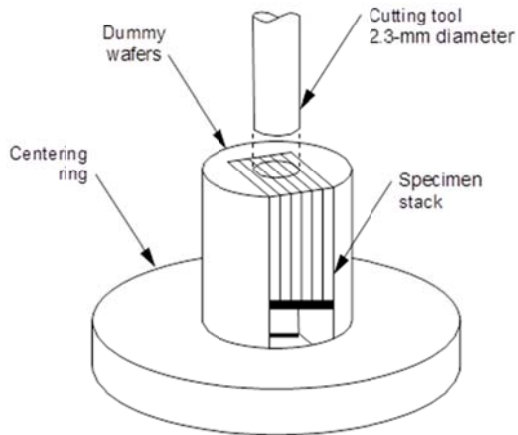

Figure 4-9 Cross section specimen preparation.
3. Pressure bond the specimen stack. A spring-loaded vise is used to bond the specimen stack together and the stack is cured under pressure for 10 min at 130 °C on a hot plate to obtain a strong bond with minimum glue thickness. When the curing process is complete, the assembly is cooled to room temperature (Figure 4-9, Step 3).
4. Cut the cylindrical specimen stack. The stack is glued into a slotted specimen mount with mounting wax. A 2.3 mm diameter cutting tool is used to cut a cylinder from the middle of the stack (Figure 4-9, Step 4)